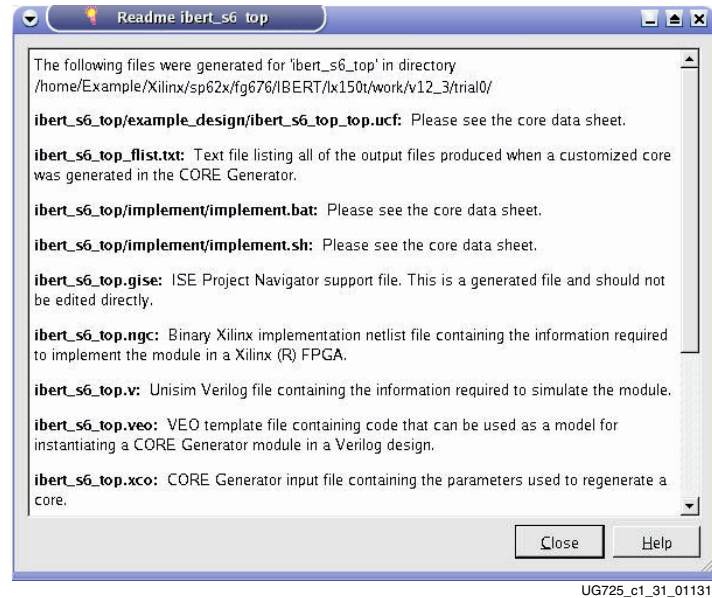

Figure 1-28: IBERT Core Readme
16. A readme window for the **ibert_s6_top** core opens after core generation completes (Figure 1-28). Review the list of files created and click **Close** when finished.